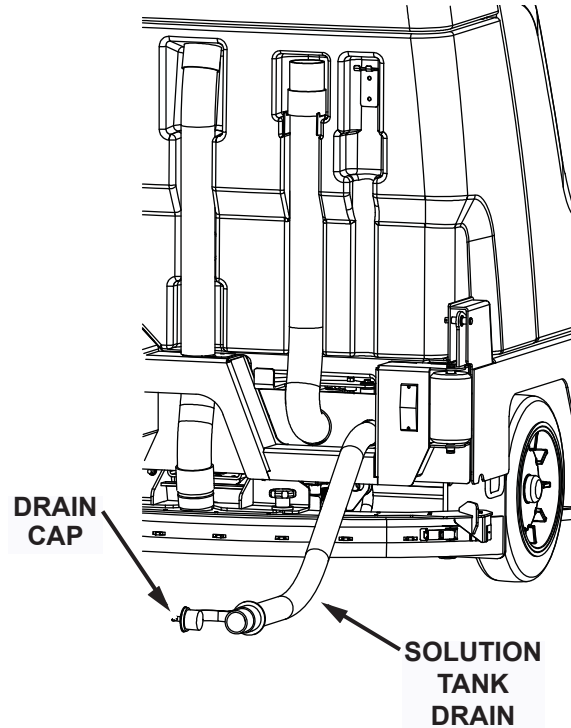

Fig. 1: Draining the Solution Tank
4. Loosen and remove the cap. (See Fig. 1)